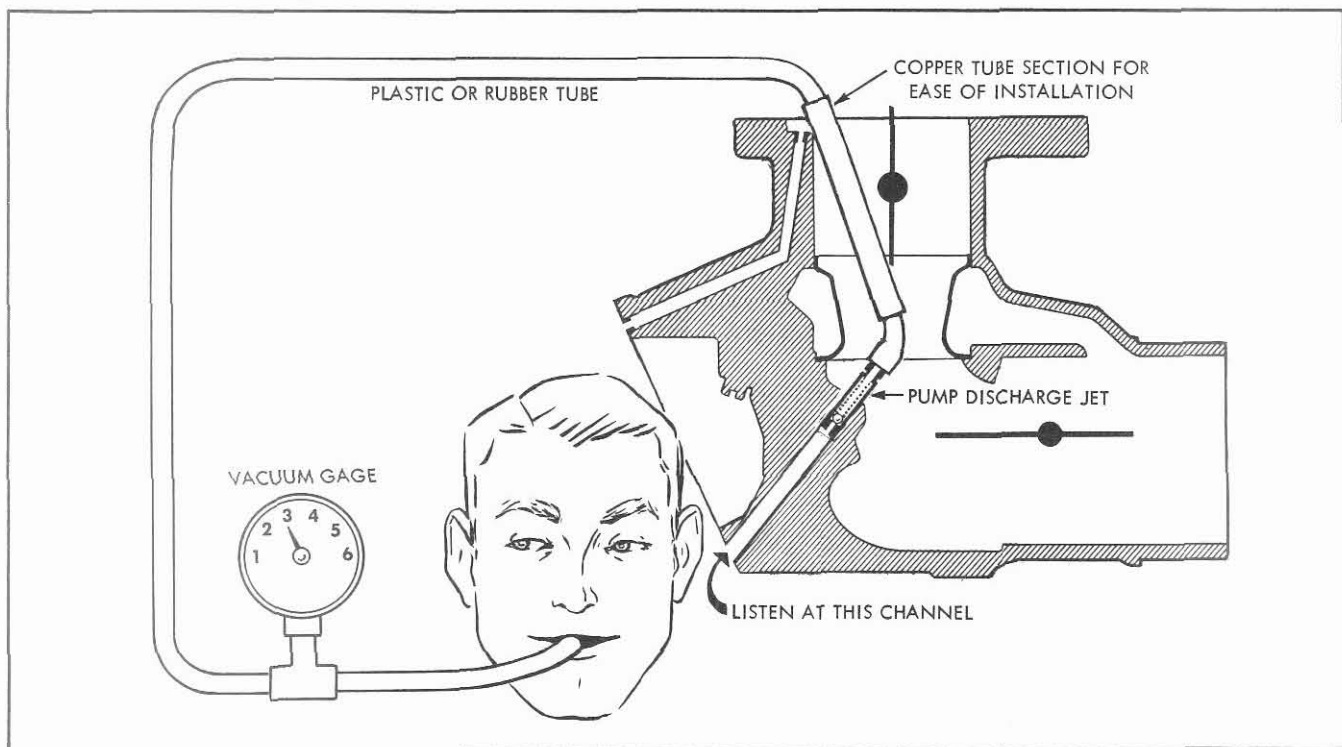

Figure 2-9. Checking Opening Pressure of Pump-Check Valve
(2) Using the mouth, draw (suck) on free end of tube. (See figure 2-9). Draw very gently while listening at the fuel channel at the bottom of carburetor casting.
(3) The discharge jet will release air at 3-inches of mercury (Hg.) on the gage. This will be audible as the ball check leaves the seat. If the discharge jet releases below 3-inches Hg., it must be replaced.